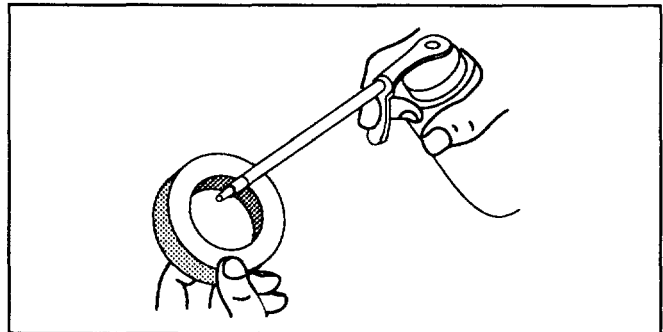

Fig. 23
5. Apply enough clean SAE 30 oil to saturate the filter (Fig. 23).